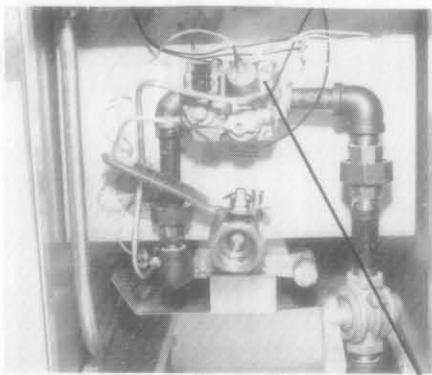

Figure 70
4. Reinstall the pilot adjustment hole cap when required flame size is obtained. (See Figure 70.)